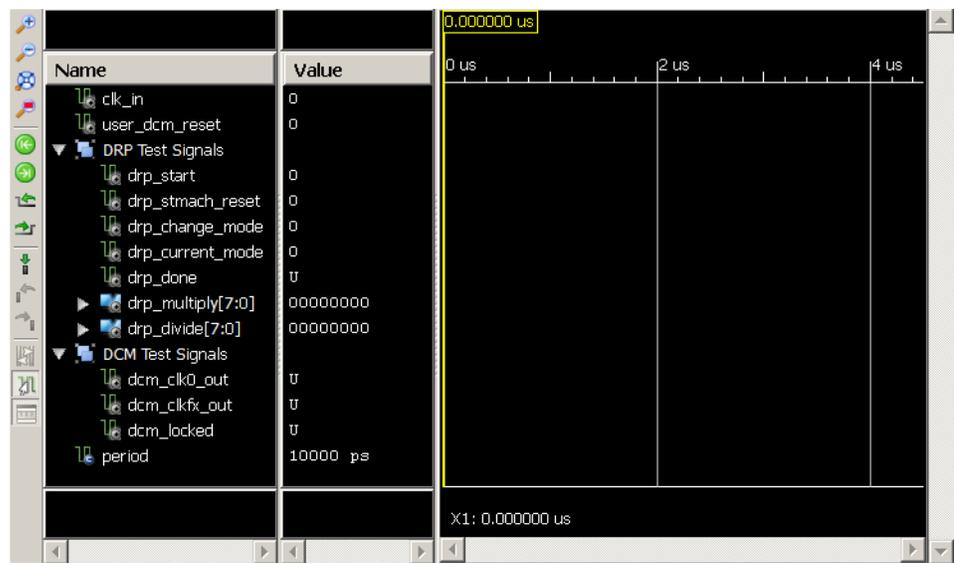

Figure 4-14: Adding Groups
6. Expand all the created groups. Your wave window should be similar to Figure 4-14.
If your signal groups do not match Figure 4-14, you can do the following to fix them: